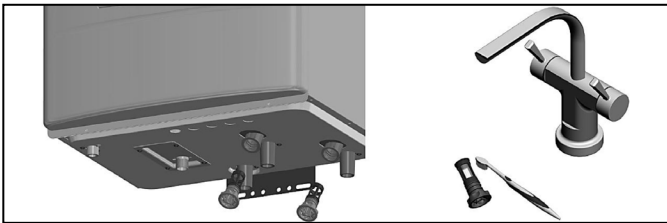

Figure 67 - Draining the Water Heater; Cleaning the Filter
5. Remove the cold water inlet filter. Then clean it with a toothbrush and clean running water. See Figure 67.